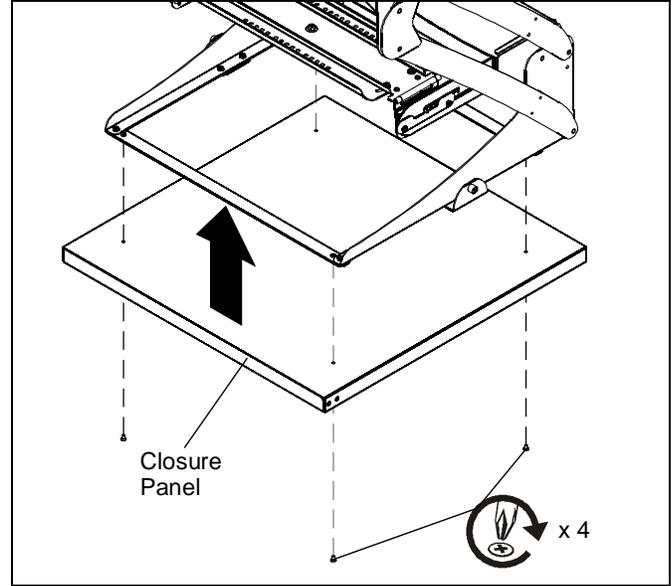

Figure 8
13. Re-install four screws removed in Step 1 of **Installing in a Suspended Ceiling** section (See Figure 8)